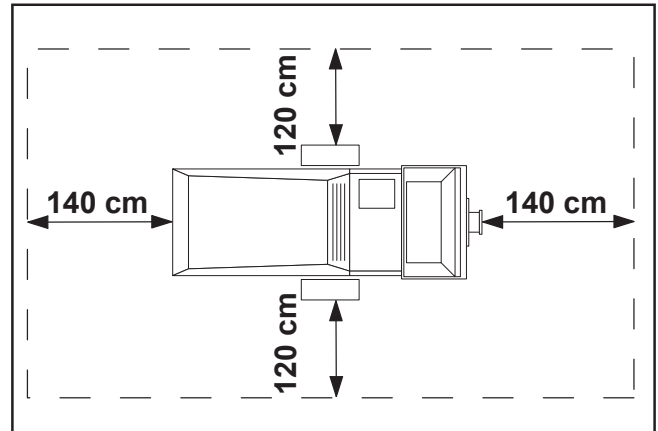

FIG.12
**Be sure to leave a passageway all around the machine (FIG12) clear of any obstacles and with no potholes or hazardous projections.**